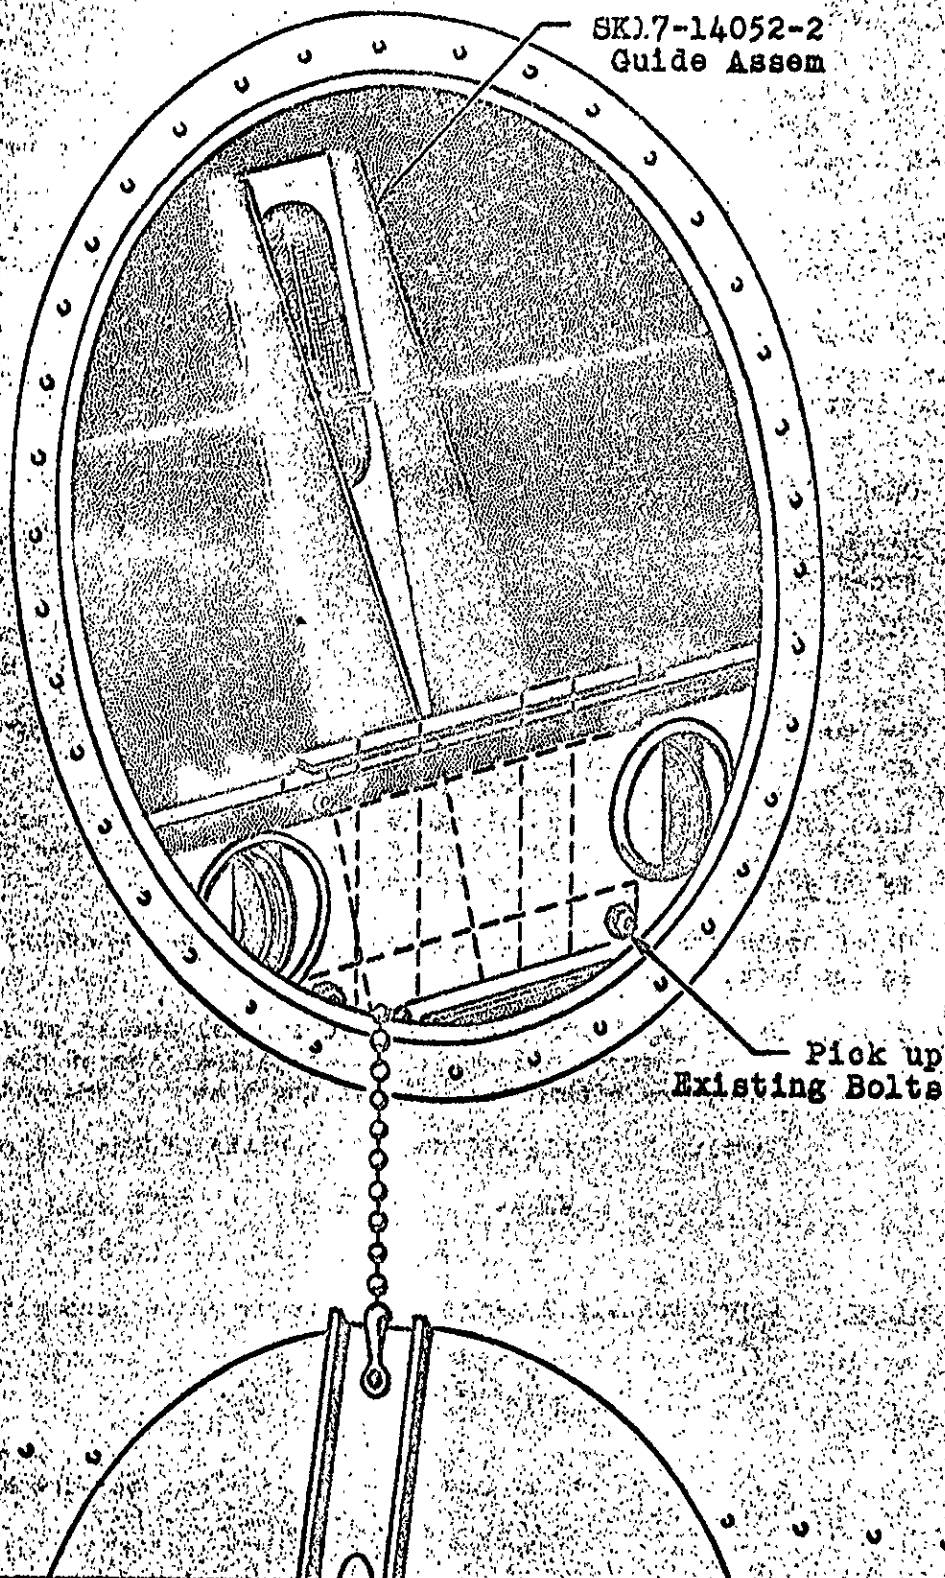

Fig. 1
3. Elevator Cable Guide SK-17-14052-2 is to be located as shown on figure 1. This is to be attached to the cross channel with the existing bolts holding the two inboard rudder pulley brackets. As only one hand may be used, it will be necessary to hold the nut while tightening the bolts by jamming a wrench against the structure.